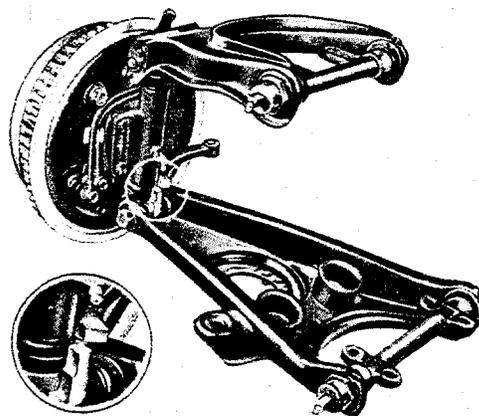

Fig. L 1/4
- Screw in and tighten the grub screw (4) for the steering column jacket (Fig. L 1/3). On no account may the grub screw be omitted, since this screw is necessary to prevent axial displacement of the annular grooved bearing and the steering tube.
- Turn the steering hard over to the left and to the right. In doing this, check whether the steering knuckle arm rests against the steering knuckle assembly stop face (Fig. L 1/4).